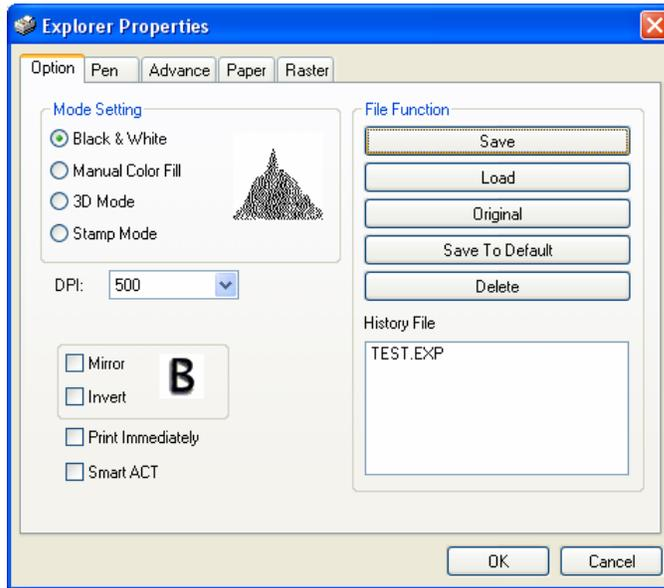

Fig. 6- 19 Save Laser Parameter Settings
**A-4 Stamp Mode**– Stamp production is one of the most dynamic functions of the LaserPro Explorer II. Due the nature of the engraving, stamp production requires different operational steps than most engraving or cutting. In order to create stamps, select the Stamp Mode and the corresponding settings: Set Shoulder, Pitch, Border, Invert, and Mirror. (see fig.6-)